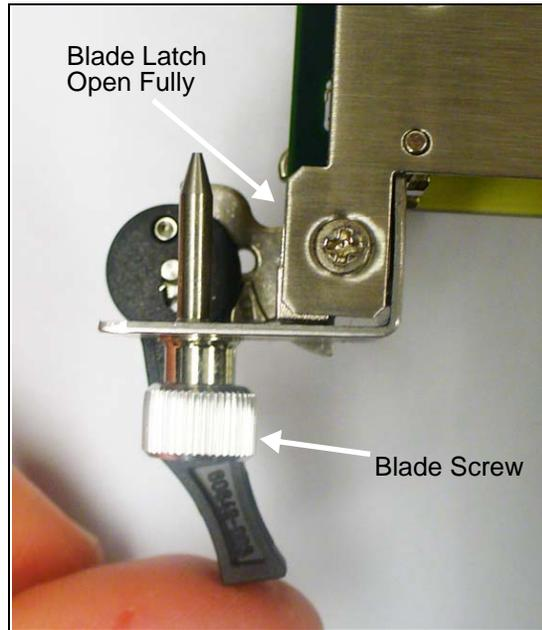

Figure 5.29 - G10 IIC Ejector Handle - Open Blade Latch
4. Swing the ejector handles inward until they snap into place just beneath the blade screws (**Figure 5.29**). Be sure to release the ejector handles before swinging them inward so the blade latches remain in the open position.